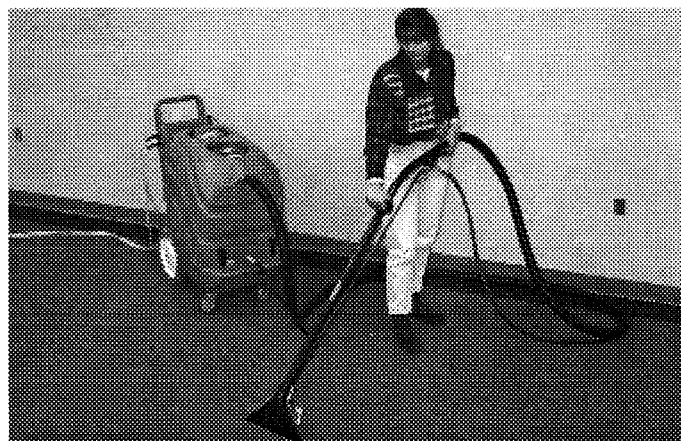

Fig. 8
2. Place floor tool so bottom of glide plate or stainless steel shoes are parallel to floor. Squeeze trigger and apply downward pressure on floor tool head and slowly pull tool backwards using both hands. Release trigger 6 inches from end of stroke. (Figure 8)